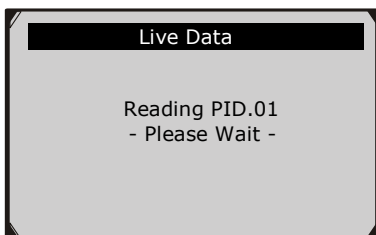

Figure 6.10
- 2) Wait a few seconds while the scan tool validates the **PID MAP** (Figure 6.10).